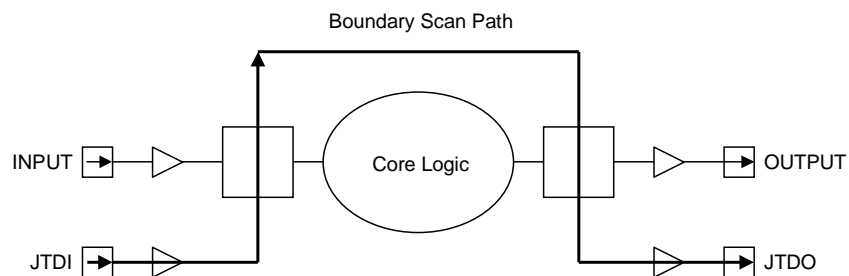

Figure 14.4.3 Test Data Flow While PRELOAD is Selected
- PRELOAD allows the boundary scan register to be initialized before another instruction is selected. For example, prior to selection of the EXTEST instruction, initialization data is shifted into the boundary scan register using PRELOAD as described in the previous subsection. PRELOAD permits shifting of the boundary scan register without interfering with the normal operation of the system logic. The flow of data for the PRELOAD phase of the SAMPLE/PRELOAD instruction is shown in Figure 14.4.3.